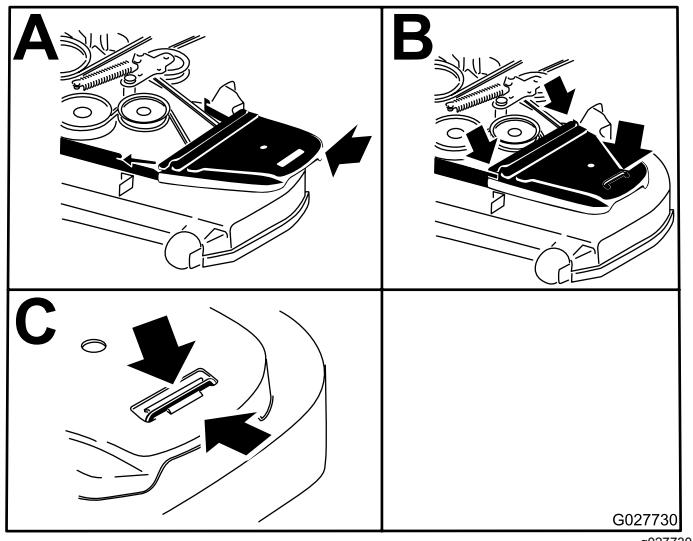

Figure 62
- 10. Install the belt covers and tighten the bolts (Figure 62).